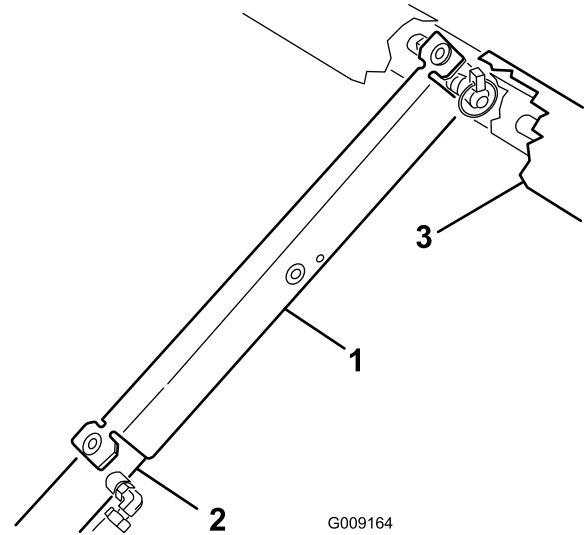

Figure 2
- C. Push the bed support onto the cylinder rod, making sure the support end tabs rest on the end of cylinder barrel and on the cylinder rod end (Figure 2).